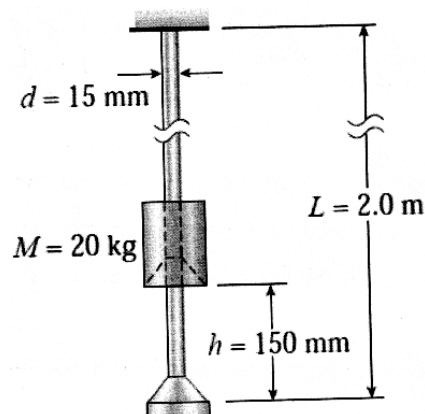

Figure. 6
- (b) A round, prismatic steel bar ($E = 210$ GPa) of length $L = 2.0$ m and diameter $d = 15$ mm hangs vertically from a support at its upper end as shown in Figure 6. A sliding collar of mass $M = 20$ kg drops from a height $h = 150$ mm onto the flange at the lower end of the bar without rebounding. (i) Calculate the maximum elongation of the bar due to the impact and determine the corresponding impact factor. (ii) Calculate the maximum tensile stress in the bar and determine the corresponding impact factor. (15)